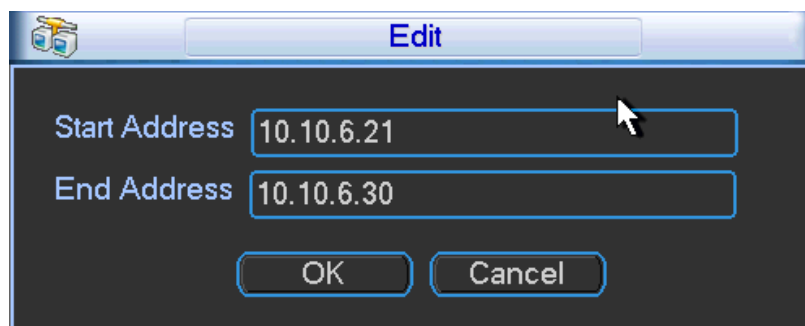

Figure 5-18
- **Edit:** Click it to edit start address and end address. See Figure 5-18. System can check the IP address validity after the edit operation and implement IPv6 optimization.